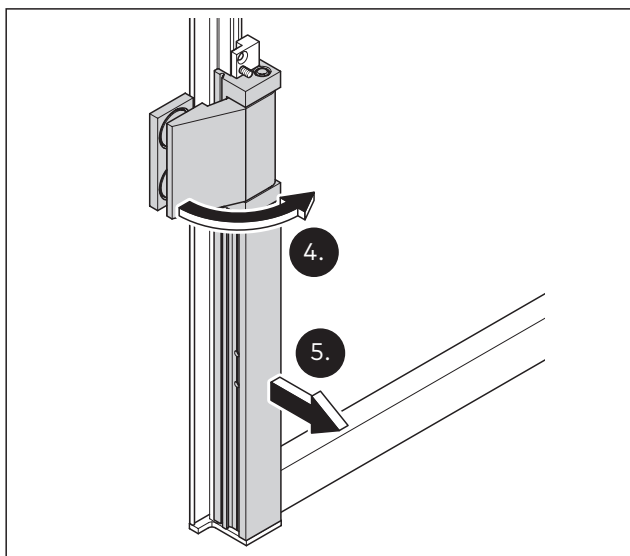

Fig. 35 Open the door hinge and remove the cover profile
4. Open the door hinge without changing the position (Fig. 35).